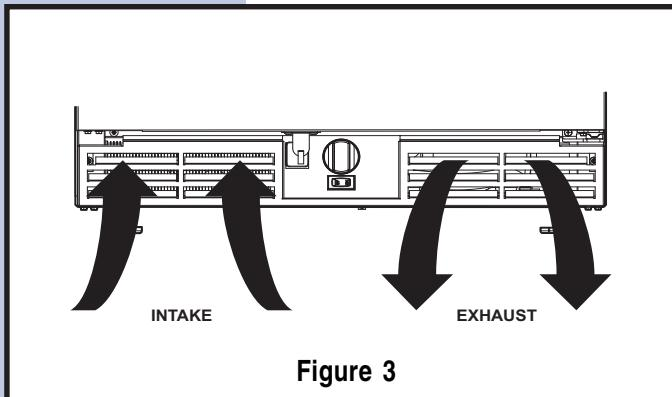

Figure 3
- 5 Position the unit to allow free air flow through the front grille (see **Figure 3**).